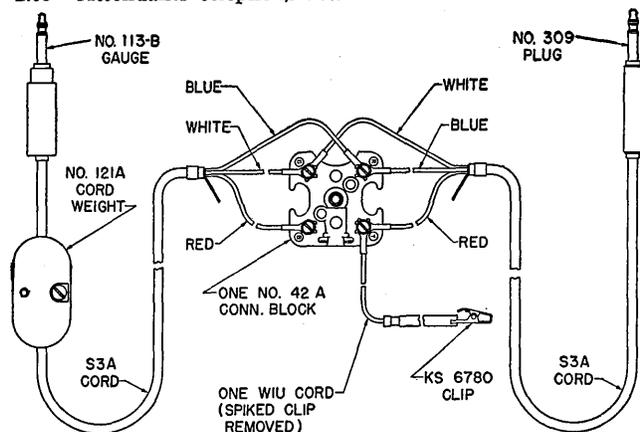

FIG. 1
- 2.02 Test cord assembly shown in Fig. 1. (To be made up locally.)
- 2.04 Test cord assembly, Fig. 1 modified, by replacing the S3A cord with No. 309 plug attached, with a No. R2CU cord, 6 feet long, equipped with a No. 716-E receiver (or equivalent).
- 4.03 Insert the No. 113-B gauge of Fig. 1 into a multiple jack of the tie trunk circuit to be tested and the No. 309 plug into the CON FRONT jack of the test line circuit. Attach the WIU cord clip to the sleeve of a plug of an idle switchboard cord.
- 4.10 Insert the plug of an idle back cord into a multiple jack of the tie trunk circuit to be tested. Insert the 113-B gauge of Fig. 1 modified, into the jack of another multiple appearance of the tie trunk and note that a click is heard in the receiver as the plug is inserted.